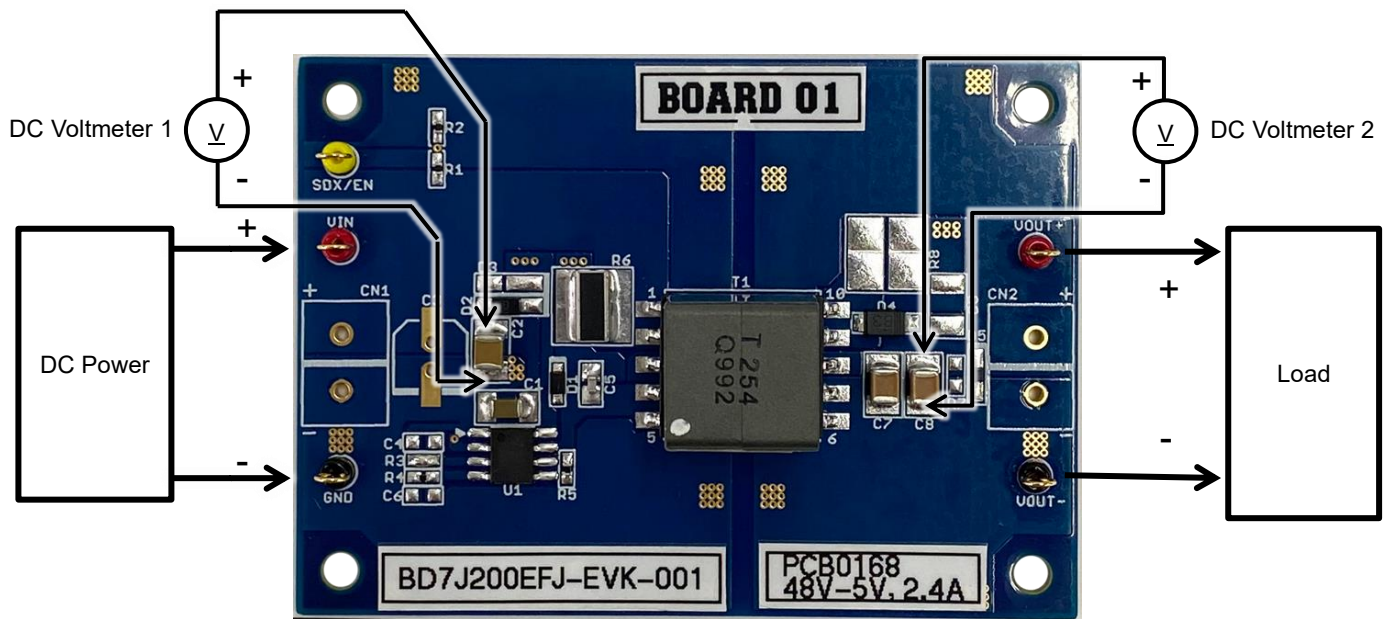

Figure 3. Connection Diagram
2. Connecting the equipments (as shown in Figure 3)